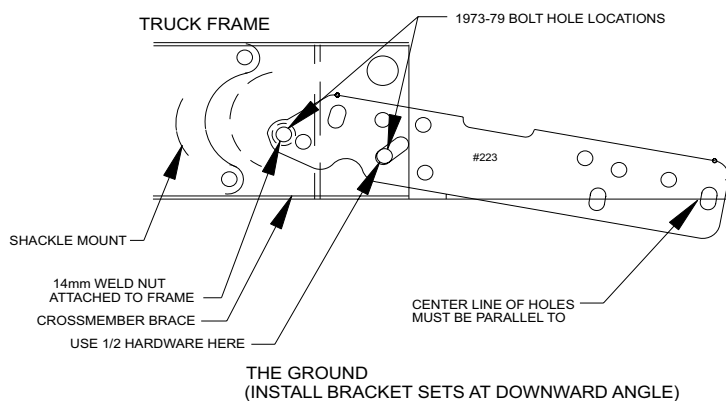

**FIGURE 2 (driver side view)
STEP 2: Install bumper onto mounting brackets with brackets OUTSIDE of bumper hitch. Refer to figure 2.